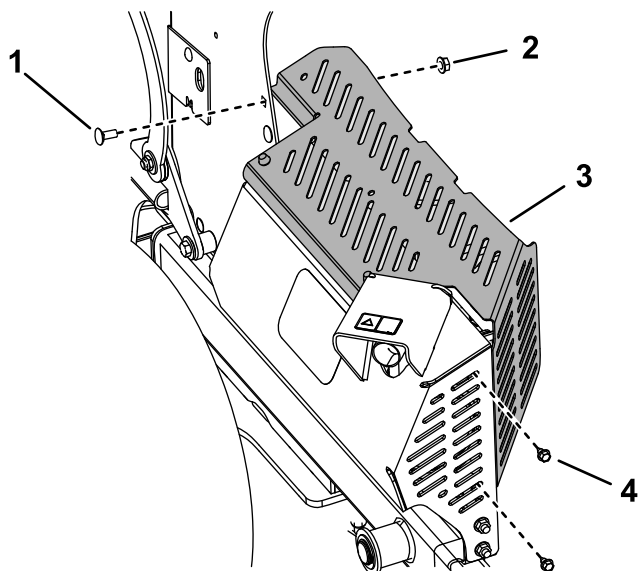

Figure 33
12. Remove the heat shield (Figure 33).